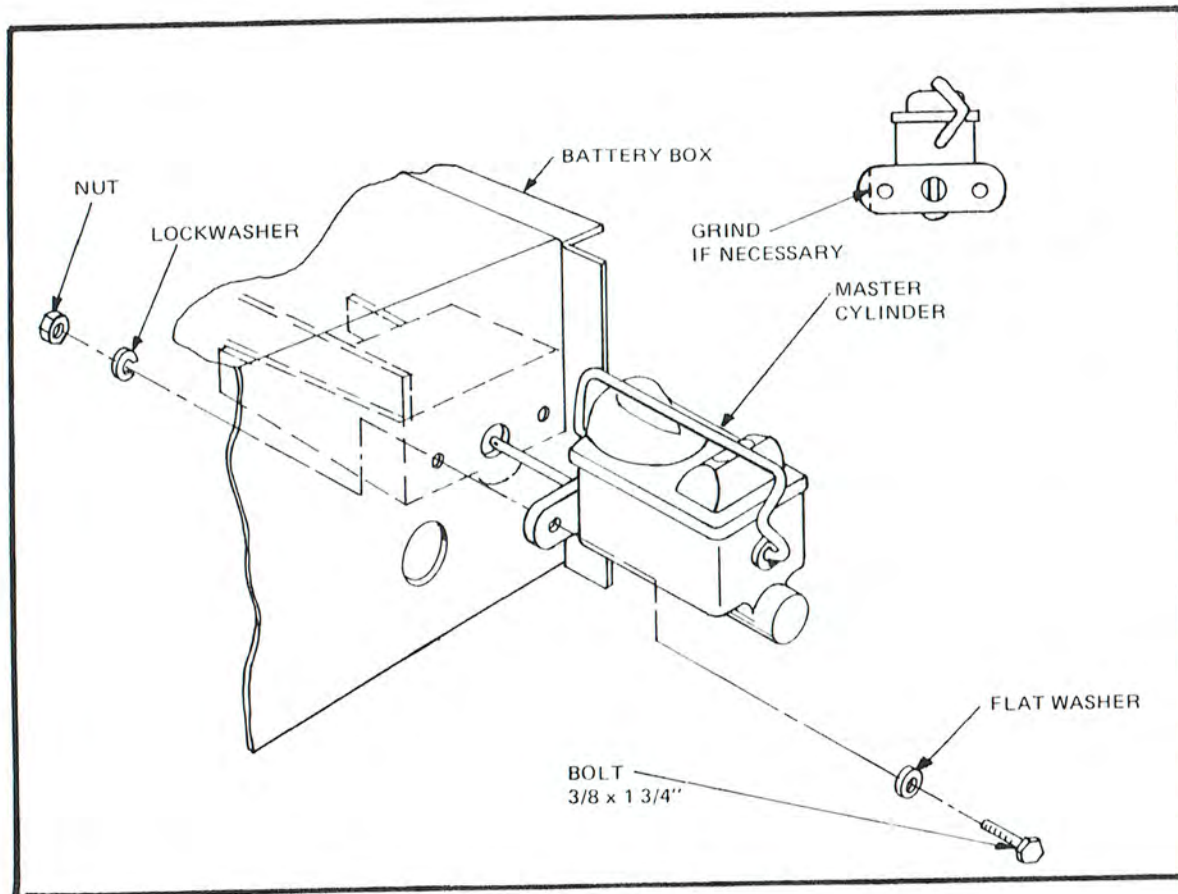

Figure 19
- Remove accelerator cable bracket from engine. Remove rubber boot from around master cylinder push rod. Insert unit into hole on the front of the battery box and into the frame. Grind down outside edge of master cylinder to clear battery box, if necessary. Secure with $3/8 \times 1 \frac{3}{4}$ " bolts with flat washer, lock washer and nut. Reinstall boot over pushrod. (Figure 19)